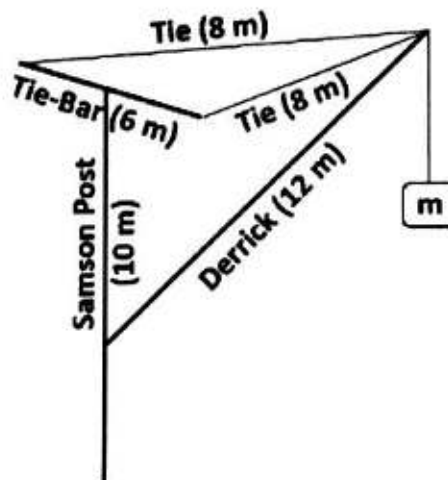

Fig Q1
1. A jib-crane supports a 15.29 tonne mass from the crane head as shown in Fig Q1. The Samson post is 10 m in length between the derrick and the tie-bar. The ties are not horizontal.